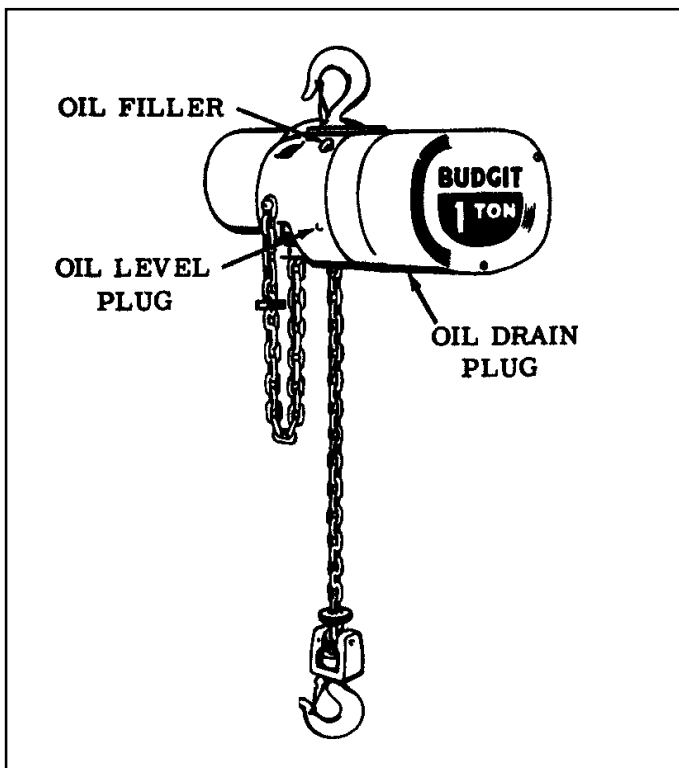

Figure 4-1. Location of Oil Filler and Plugs
4-4. CHANGE GEARCASE OIL (Figure 4-1).
- (1) Check to see that bolts securing motor to frame are tight. Also check for any visible damage to motor, supply head or muffler, such as a cracked or dented housing. Replace damaged parts.
- (2) Check hoist frame for signs of visible damage. If frame shows evidence of fracture, the hoist should be disassembled and inspected for further signs of damage from possible overloading. Replace damaged parts. Also check condition of limit stop.
- e. Check Oil Level.** Remove oil level plug (Figure 4-1). If oil level is not even with bottom of tapped hole, add Automatic Transmission Fluid, DEXTRON® Type, to bring proper level.